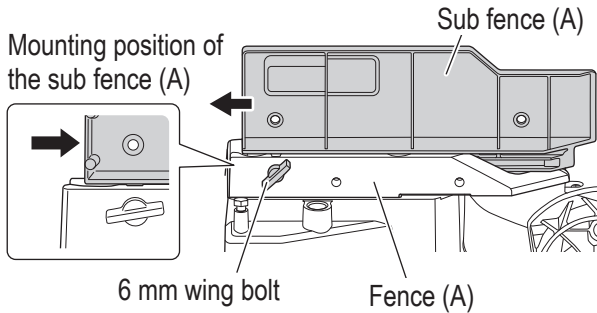

Fig. 18
- Confirmation for use of sub fence (A) (Fig. 18)
In the case of direct angle cutting and left bevel angle cutting, slide inward to the position where the sub fence (A) hits, and secure it with 6 mm wing bolt. (as shown in Fig. 18)